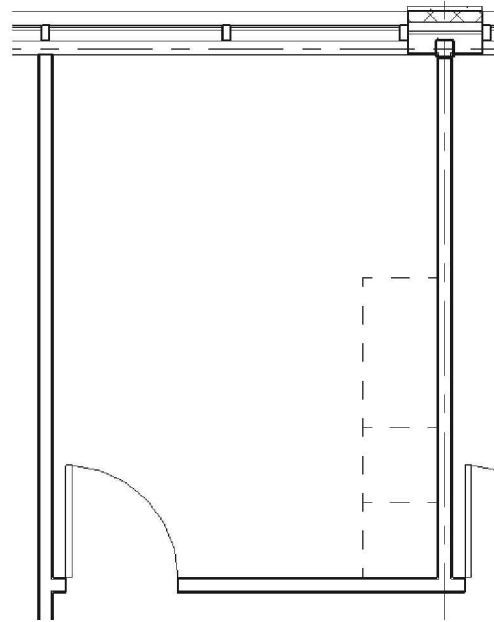

FIGURE 11-2.3 Three base cabinets placed
6. Place the other two base cabinets as shown in **Figure 11-2.3**, with a 24" single door base cabinet in the middle and a 48" sink base to the Northern end.